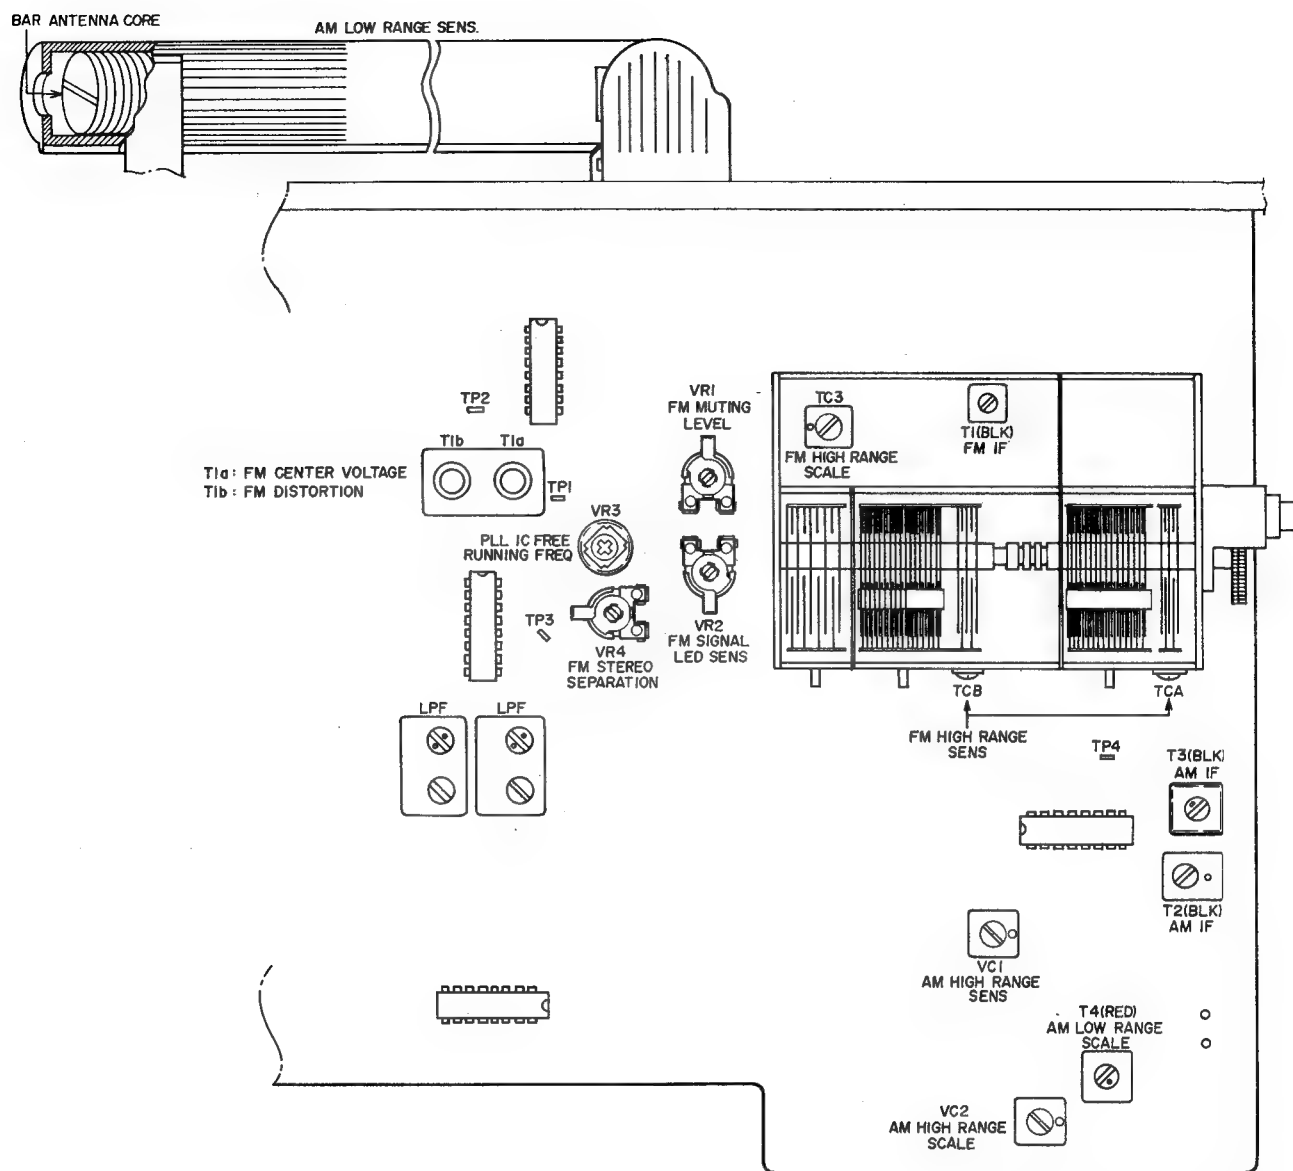

Fig. 8 Tuner P.C Board
1. FM SECTION ADJUSTMENTS (Refer to Figs. 8, 10, 11)
Unless otherwise specified, use the adjustment points provided on the Tuner P.C Board (Fig. 8).
2. AM (AT-K11L and AT-K22L: MW) SECTION ADJUSTMENTS (Refer to Figs. 8, 9, 10, 12)
Unless otherwise specified, use the adjustment points provided on the Tuner P.C Board (Fig. 8)